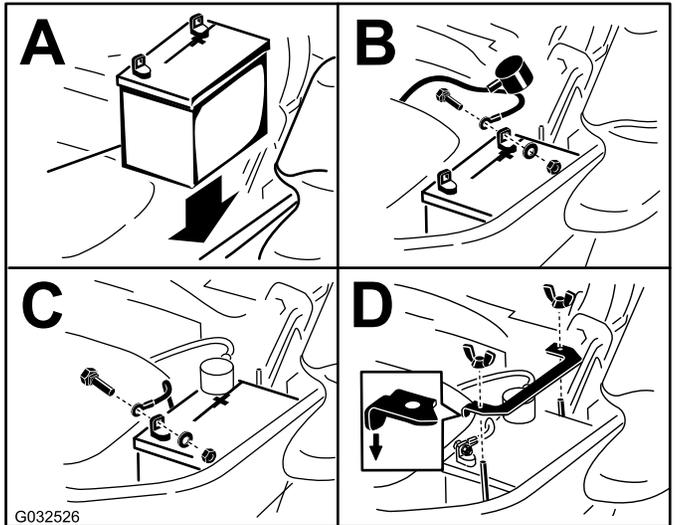

Figure 68
**Note:** Position the battery in the tray with the terminal posts opposite from the hydraulic tank (Figure 68).